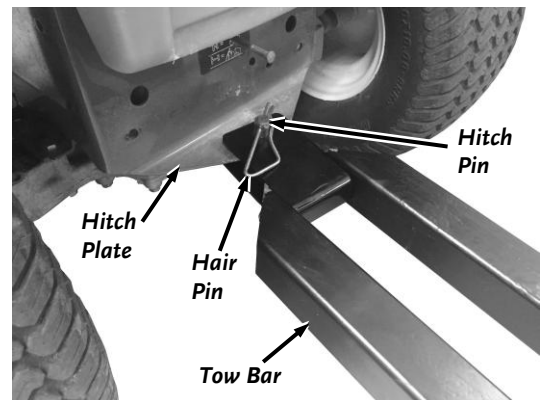

Figure 9
3. Lift the Tow Bar and position the Pin Hitch opening onto the Tow Vehicles Hitch Plate (**Figure 9**).